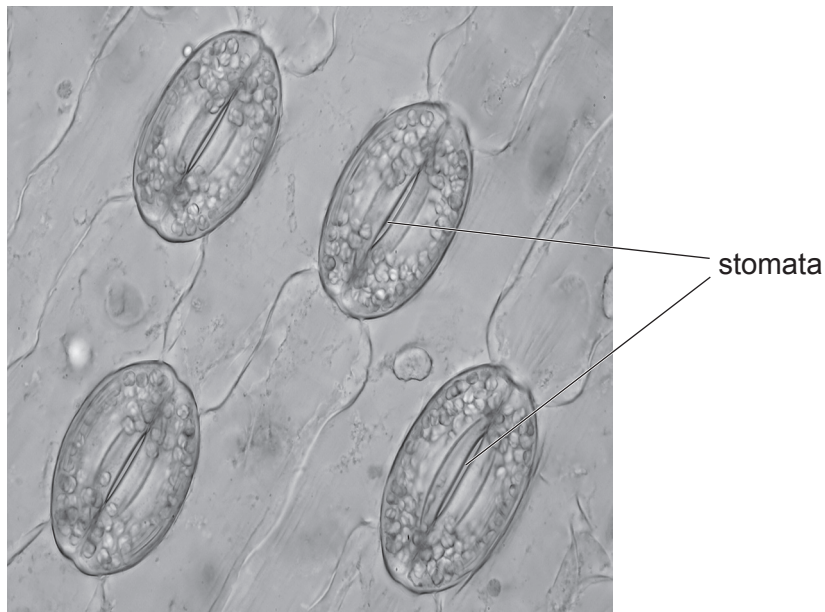
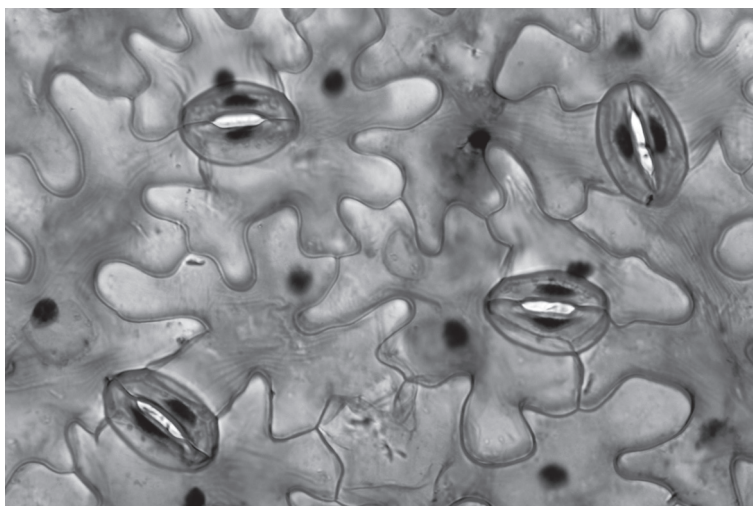

Fig. 2.2
Fig. 2.3
(b) Fig. 2.2 is a photomicrograph showing part of a leaf surface.
The actual area of the photomicrograph in Fig. 2.2 is 0.04 mm^2 .
The leaf from which Fig. 2.2 is taken has a total surface area of 20 cm^2 .
(i) Use Fig. 2.2 to estimate the total number of stomata on the leaf.
- (iii) Fig. 2.3 is a photomicrograph showing part of a leaf surface of a different type of plant.
Fig. 2.2 and Fig. 2.3 have the same magnification.
Identify the observable differences between the leaf surface shown in Fig. 2.2 and the leaf surface shown in Fig. 2.3.